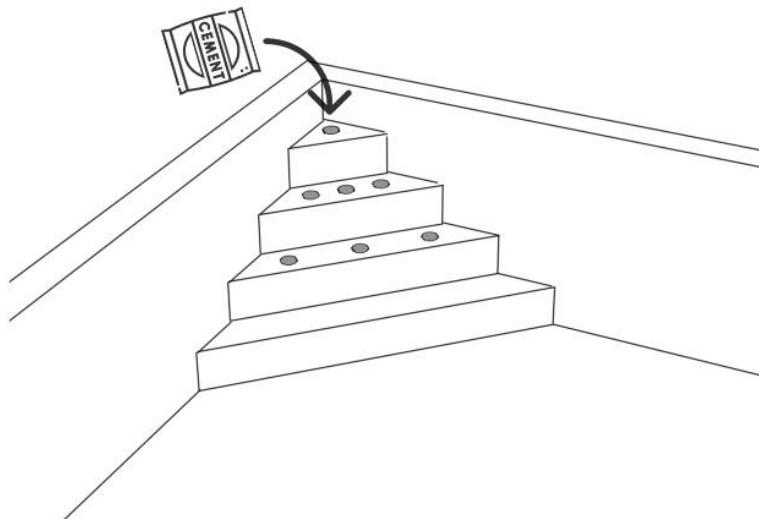

Figure 3 - Filling the supports with sand or cement.
15. Once the correct alignment has been verified, proceed with fixing the stair. Fill and fill the supports of the staircase itself with sand or cement (see figure 3).